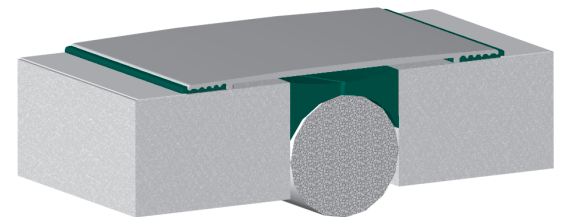

FIGURE 3.5 – BRIDGE JOINT
- 4) Bridge Joint (Figure 3.5)